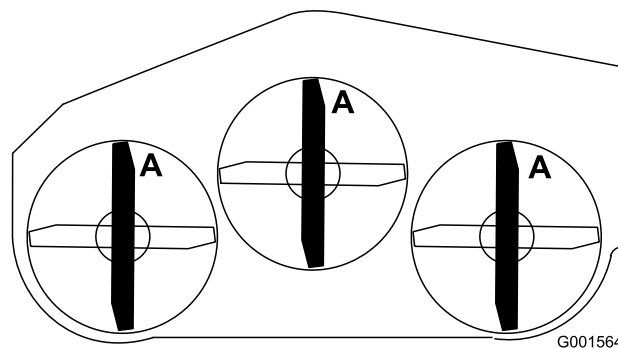

Figure 46
1. Rotate the blades until the ends face forward and backward (Figure 46).